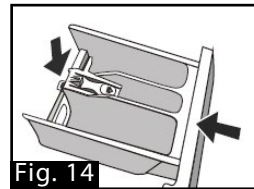

Fig. 14
4. Replace the softener cover and push the drawer back into the closed position (Fig. 14).